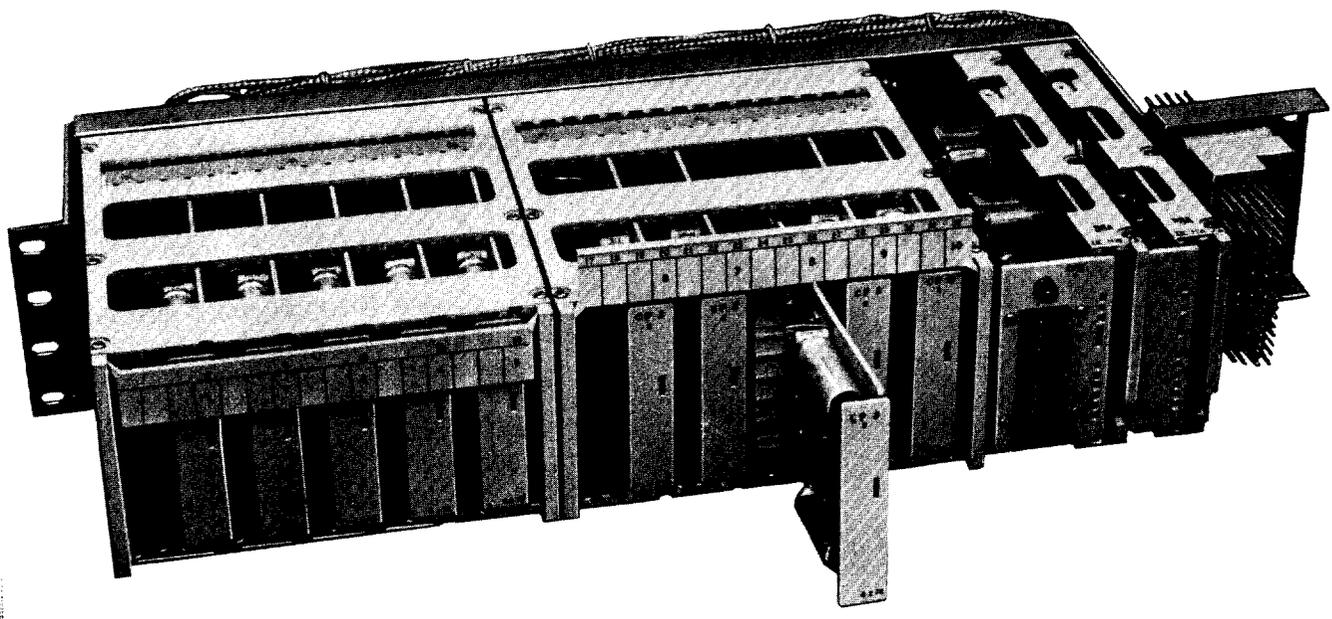
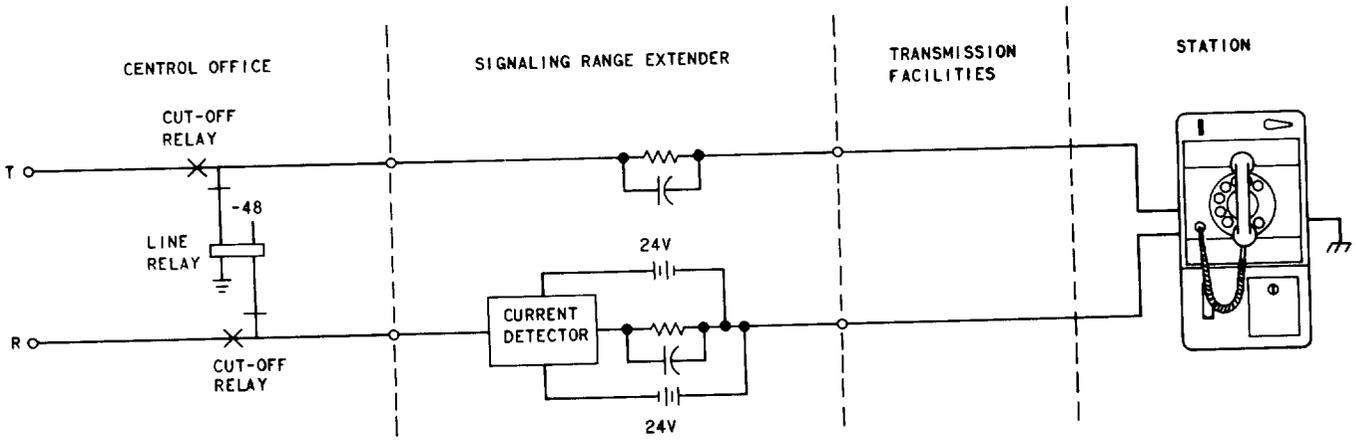

Fig. 1—Signaling Range Extender
Fig. 2—SRE Application Schematic on Coin Station Line
1.02 The SRE (Fig. 1) is a self-contained unit utilizing plug-in, solid-state circuitry to provide range extension for a maximum of ten lines. The unit shelf is mounted on a standard 23-inch relay rack and requires a mounting space 4 inches high by 10 inches deep. Figure 2 is a simplified application schematic of the SRE on a coin station line.